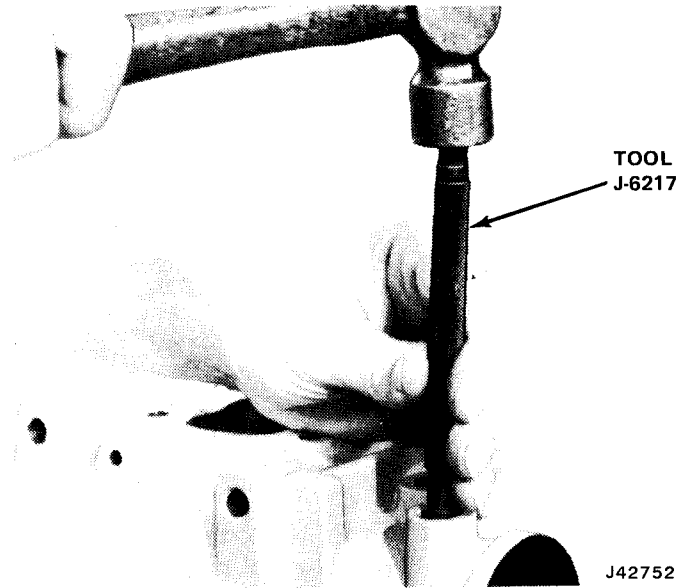

Fig. 11-81 Installing Connector
(6) If necessary to remove poppet valve from pressure port, use No. 5 screw extractor. Drive new connector into connector port using Installation Tool J-6217 (fig. 11-81).